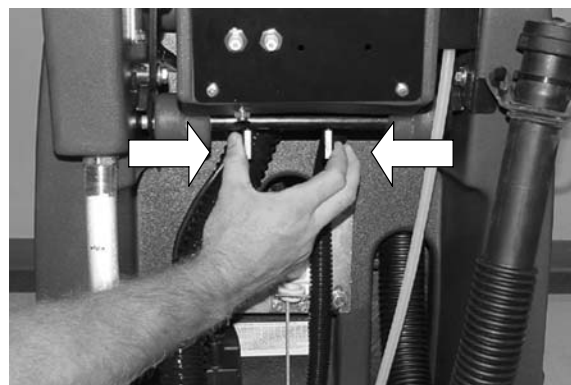

FIG. 14
1. Adjust control grips to a comfortable operating height by squeezing the two levers together below the console (Figure 14).